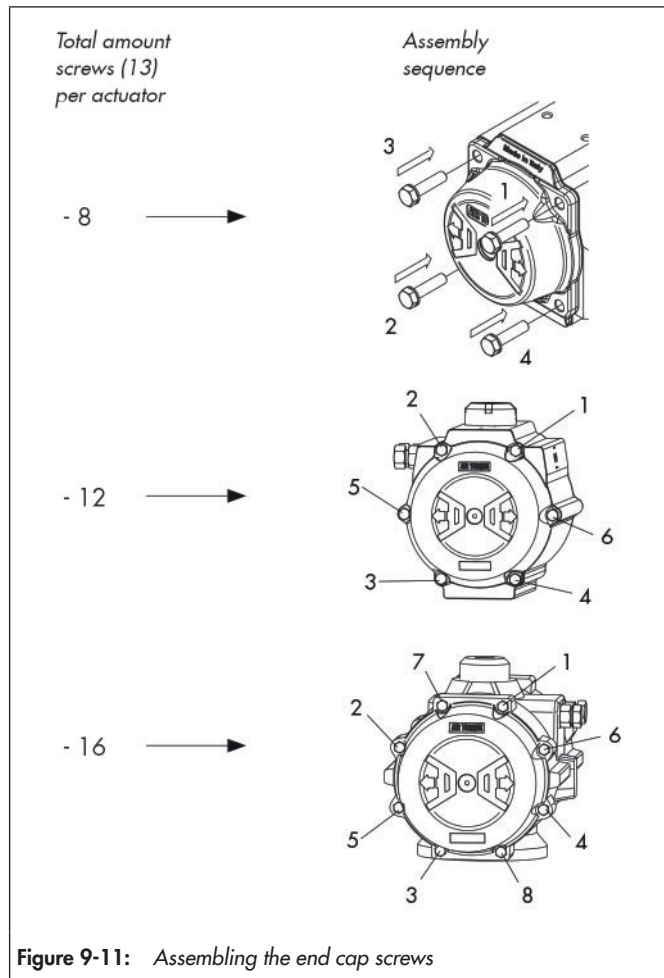

Figure 9-11: Assembling the end cap screws
⇒ Observe the installation sequence, see Figure 9-11.
- ⇒ Assemble the end cap on the housing (29).
- ⇒ Complete tightening the screws (13), tighten each screw in the indicated order one rotation each, see Figure 9-11.
- ⇒ Insert both adjusting screws (2), lock nuts (4), washers (3) and seals (11).
- ⇒ Screw the adjusting screws (2) into the housing, observe the end position adjustment.
- ⇒ Place the position indicator (19) on the shaft and pay attention to the correct position.